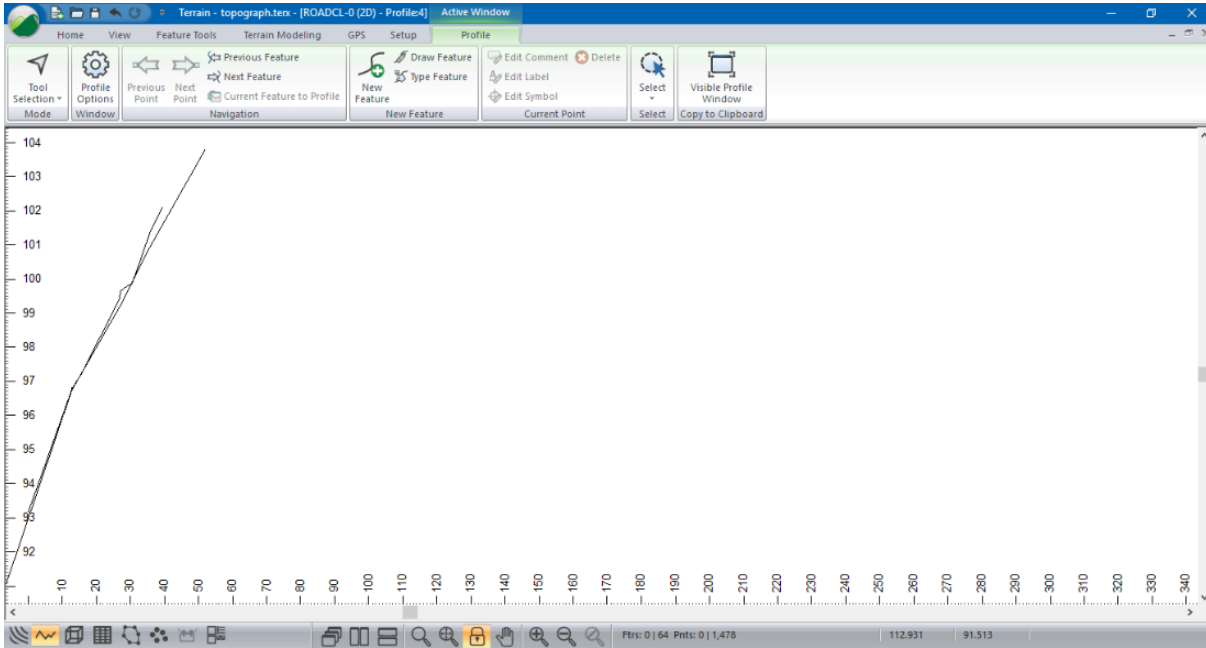

Figure 8-15: Screen Shot of STREAM-2 and SECTION-0 Profile
19. Notice there is another feature in the Profile Window. This is feature STREAM-2 projected onto the SECTION-0 profile. See Figure 8-15.